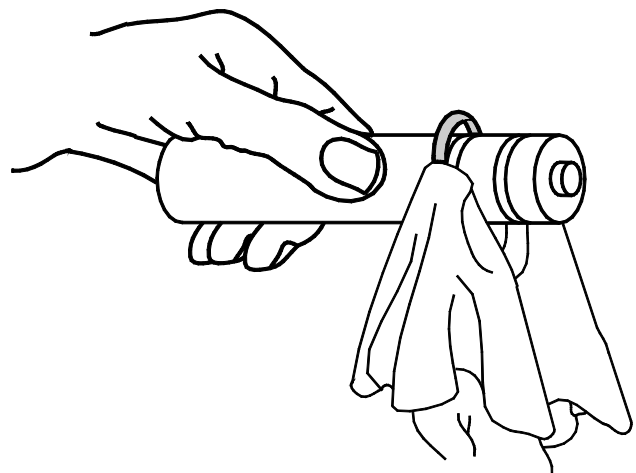

Fig. 9
- d. Remove the o-rings from the spigot plungers by grasping the part with one hand and with a dry cloth in the other hand, squeeze each o-ring upward. When a loop is formed, grasp the o-ring with the other hand and roll it out of its groove and off of the part (Fig. 9).
- a. Remove the o-rings from the bottom of the insert tube in the same manner as the spigot plunger o-ring removal (Fig. 9).